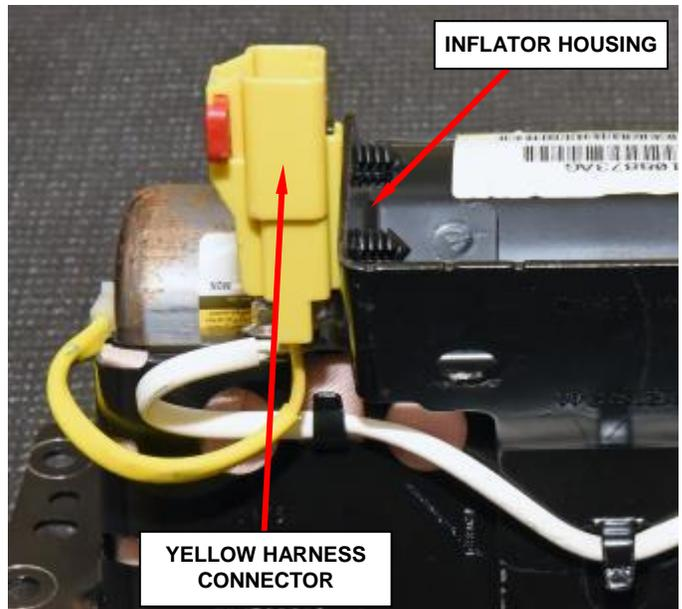

Figure 49 – Wire Harness Connector
c. Release the yellow wire harness connector from the inflator housing bracket (Figure 49).